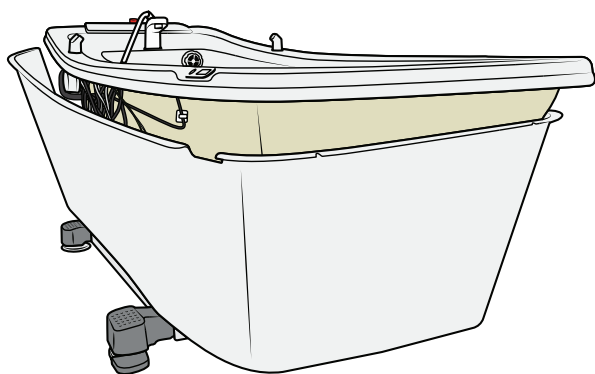

Figure 138
1. Position the outer cover around the bathtub on top of the bathtub feet. See Figure 138.